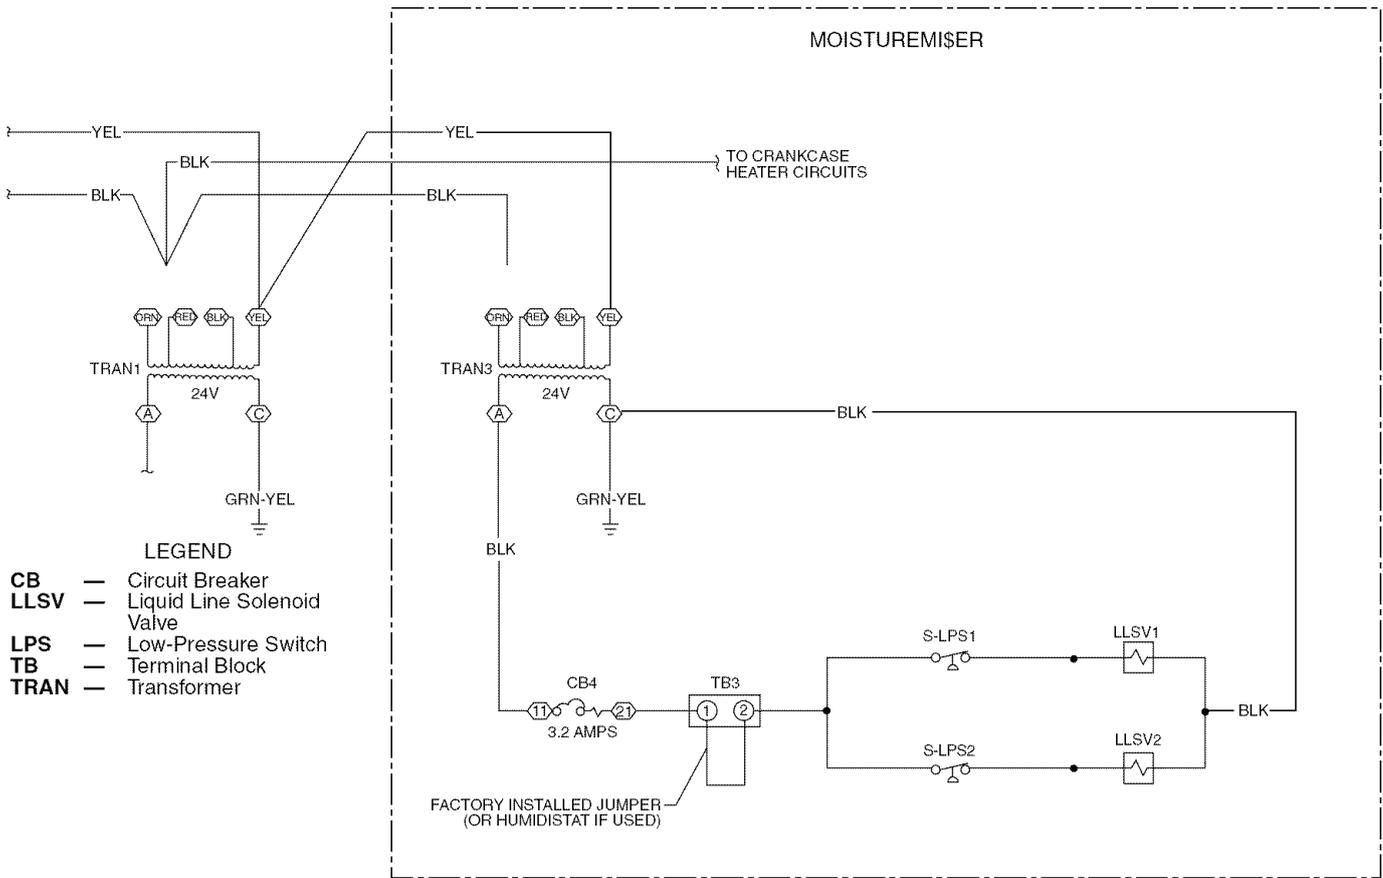
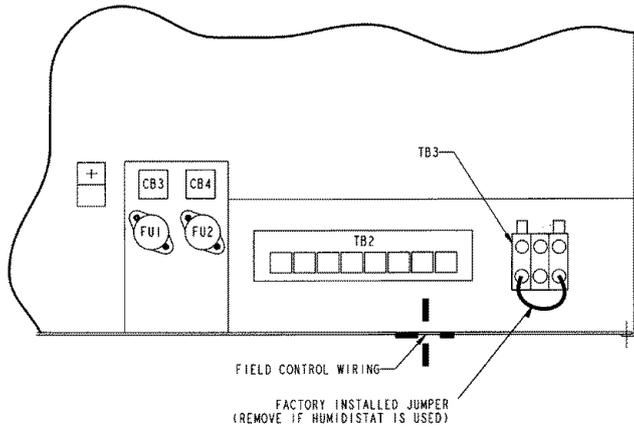
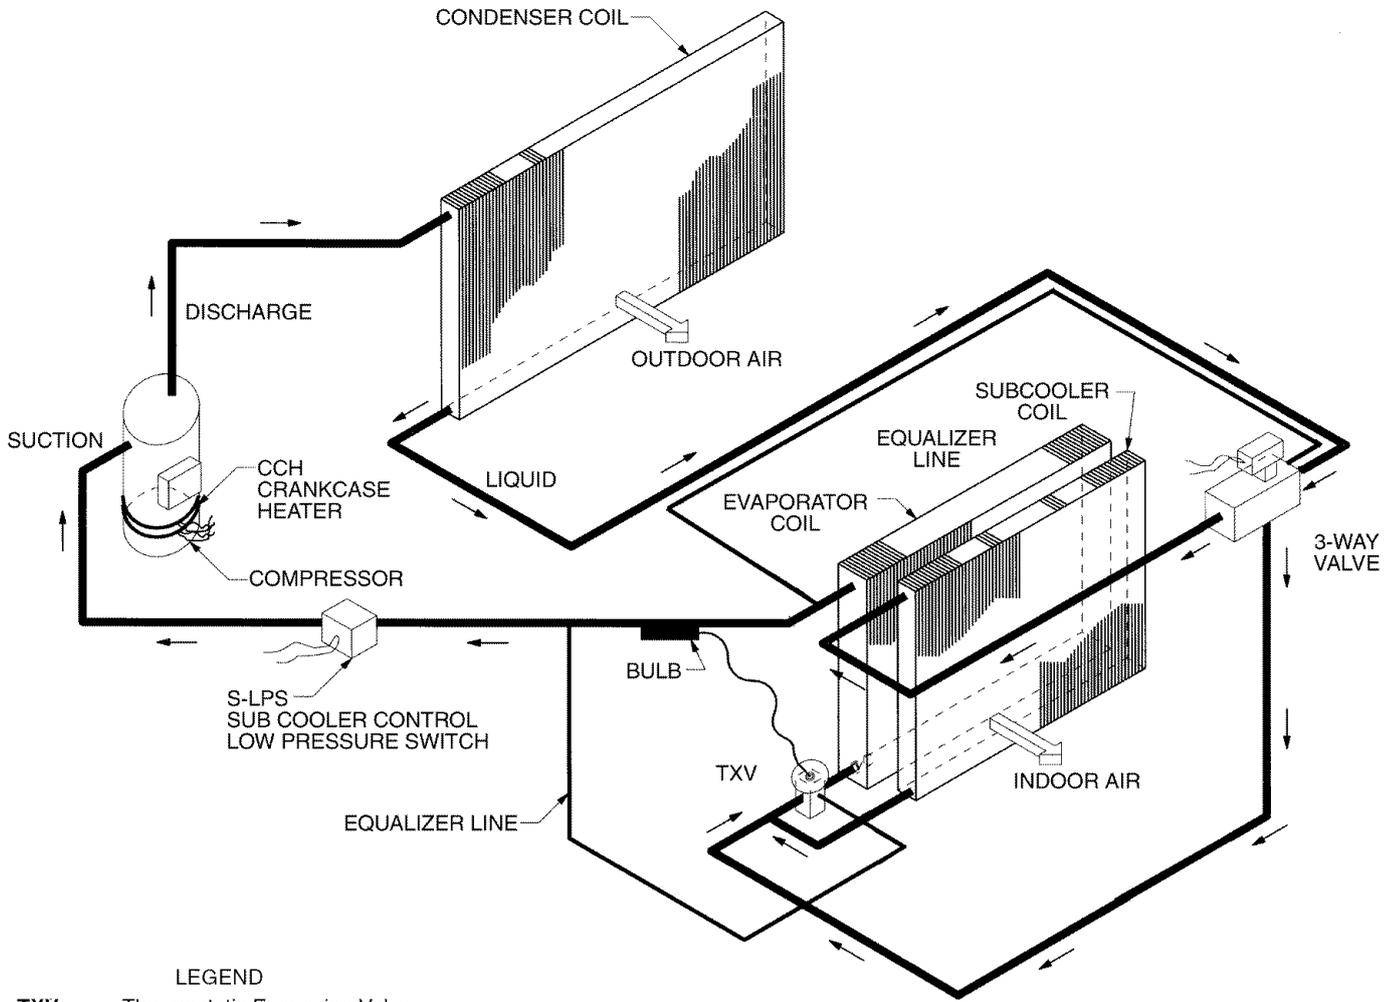

Fig. 38 — Typical MoistureMiSer™ Dehumidification Package Humidistat Wiring Schematic (460 V Unit Shown)
Fig. 39 — Typical MoistureMiSer Dehumidification Package Control Box
Fig. 40 — MoistureMiSer™ Dehumidification Package Operation Diagram
2. Route thermostat cable or equivalent single leads of colored wire from Humidistat terminals through conduit in unit to the low voltage connection on the 2-pole terminal strip (TB3) as shown in Fig. 38 and Fig. 39. See Fig. 40 for operational diagram.